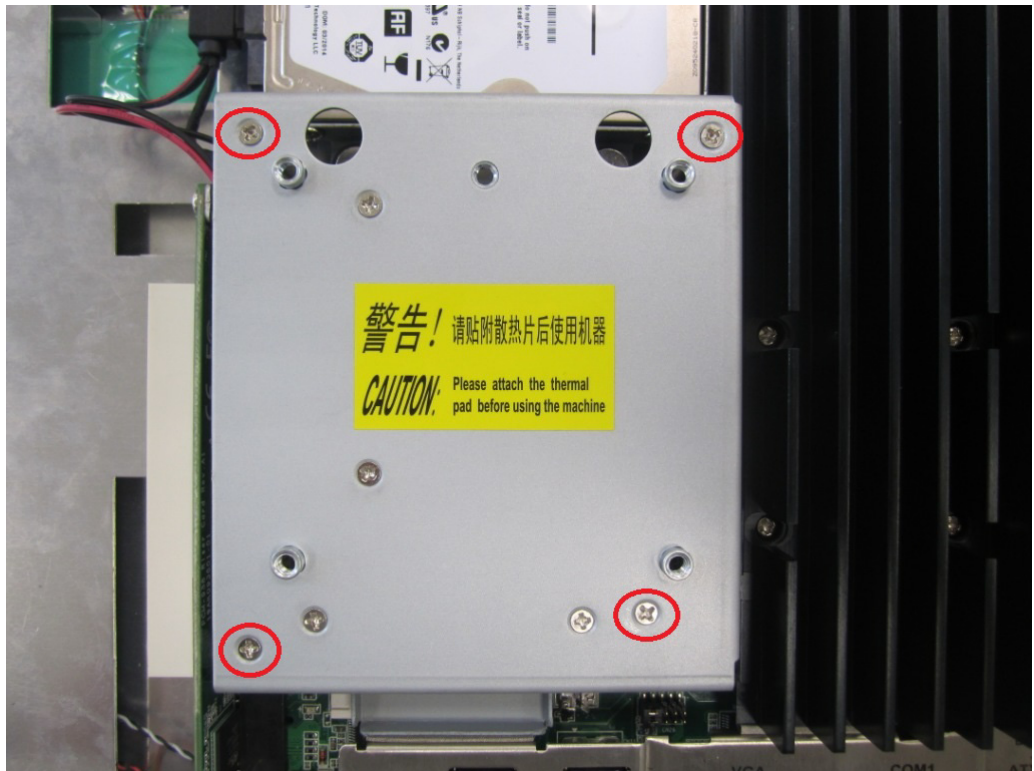

Figure 2.37
2. Remove the four screws (circled in red) on the VESA mount plate (see Fig. 2.37).